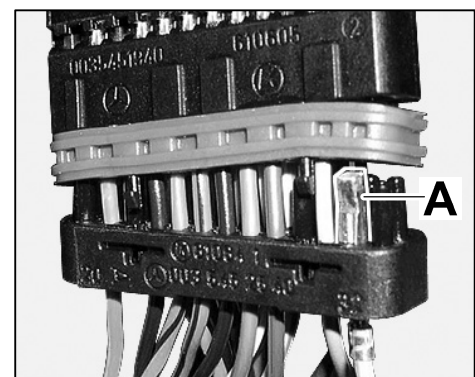

Figure 23
- 4.4.6 Check continuity of plug bush with socket contact of GY/BU line ⇒ *Figure 23 -A-*.